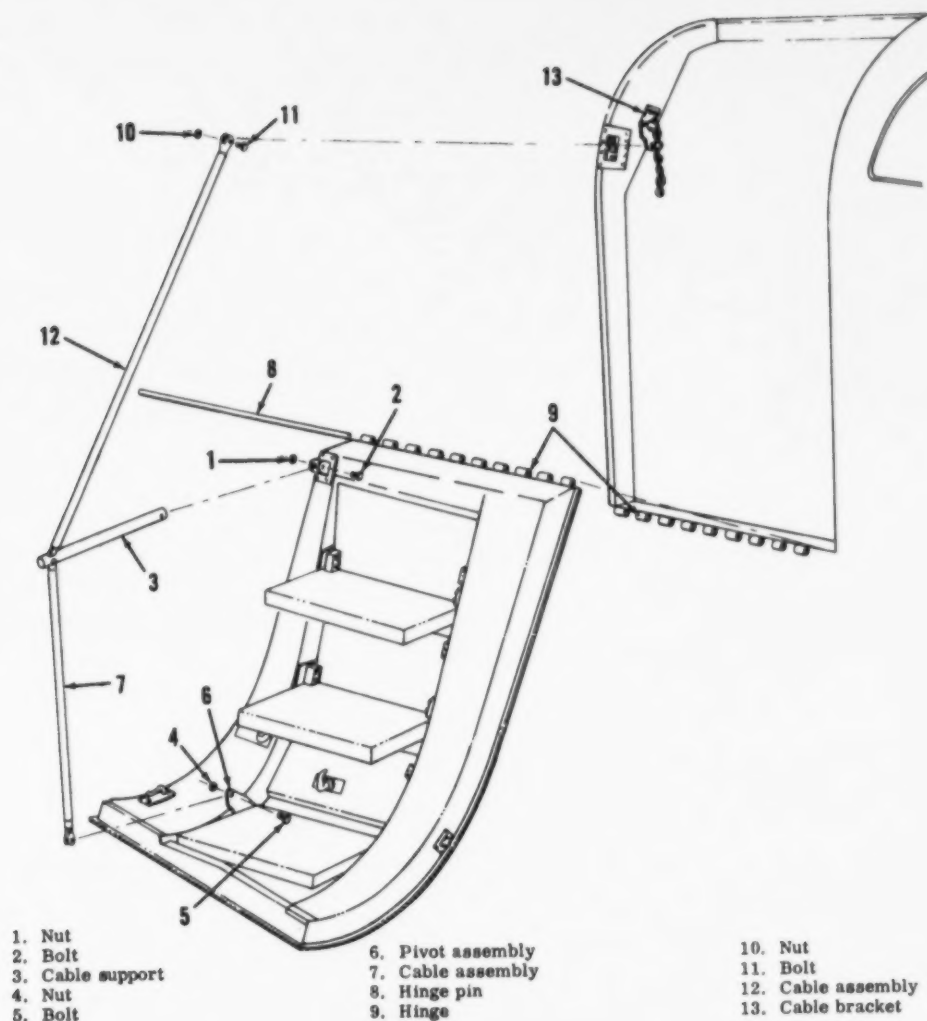

Figure 4-19. Cabin compartment door (U-8G)
a. Removal. (1) Support door. Remove nut (1, figure 4-19) and bolt (2) from cable support (3) to release cable support from door.
(2) Remove nut (4) and bolt (5) from pivot assembly (6) to release cable assembly (7) from pivot assembly on door.
(3) Lift door slightly; remove hinge pin (8) from hinge (9) to release door from fuselage.
(4) Remove nut (10) and bolt (11) securing cable assembly (12) to cable bracket (13) on fuselage structure.
c. Inspection. (1) Inspect door latching mechanism for proper operation.